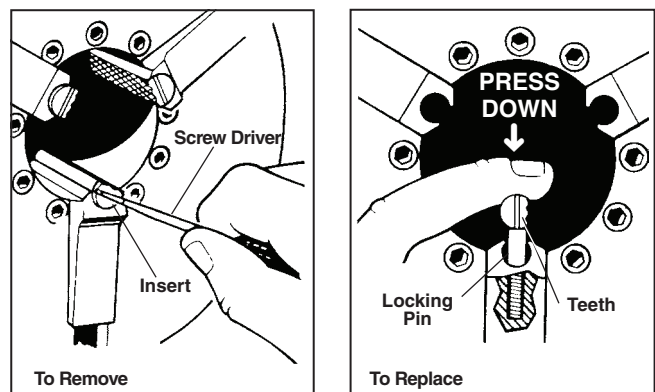

Figure 31 – Replacing Jaw Inserts
1. Place screwdriver in insert slot and turn 90 degrees in either direction. Remove insert (*Figure 31*).
2. Place insert sideways on locking pin and press down as far as possible (Figure 31).